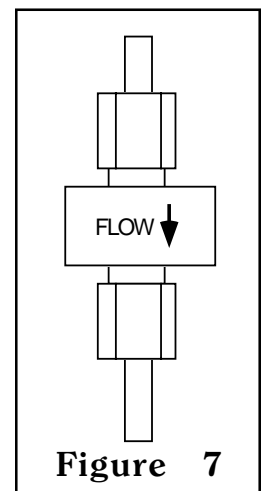

Figure 7
- f) Install the tubing onto the strainer. See figure 7. Make sure the tubing is inserted fully into the strainer and the flow is in the correct direction. Tighten the nut firmly.